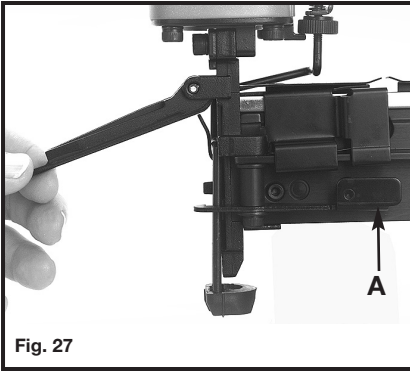

Fig. 27
3. Depress the quick release latch lever (A) Fig. 27, and hinge the fastener guide plate open.